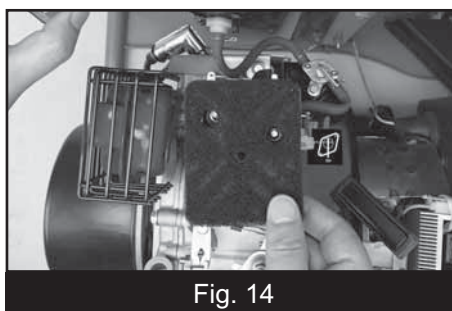

Fig. 14
2. Remove the filter elements (Fig.14).